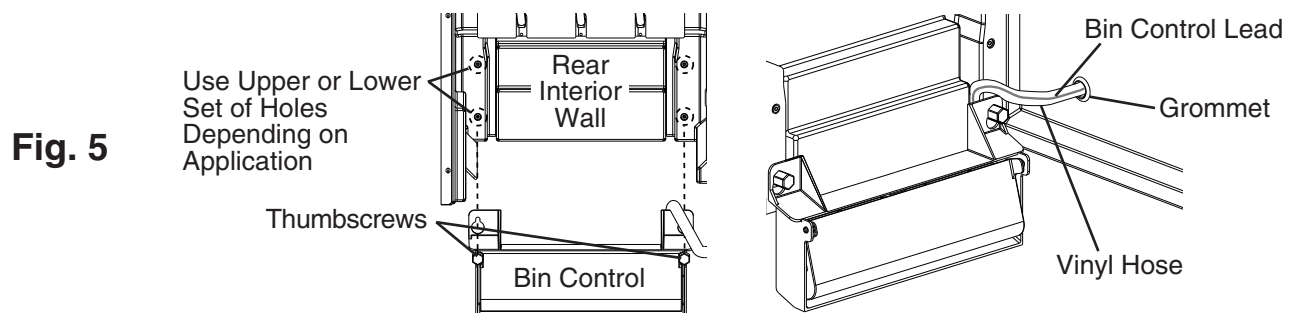

Fig. 5
- 7) Secure the bin control to the rear interior wall using the 2 thumbscrews on the rear interior wall and either the upper or lower set of mounting holes. For dispenser unit applications, the lower set of holes is recommended. When installed on a standard Hoshizaki storage bin, either set of holes is acceptable. Route the bin control lead vinyl hose through the grommet as illustrated. Do not leave any slack in the ice drop zone. See Fig. 5.